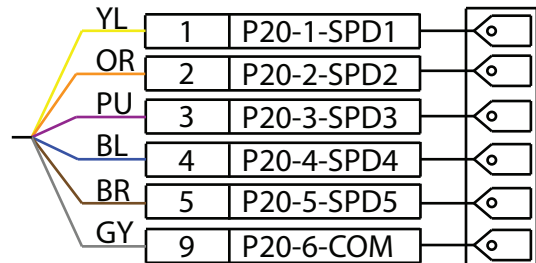

Fig. 39 — Constant Torque ECM Pin Diagram
3. Change the torque tap wire to on the molex plug to one of the five speed settings. (See Fig. 39.)